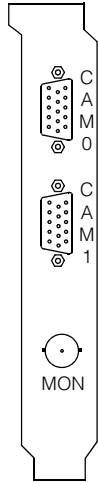

Figure 4. MVS-8100 external connector location
7. Connect your camera(s) to the 8100 using the appropriate camera cable, as listed in Table 20 on page 51. Figure 4 shows the location of the camera ports on the back panel of the 8100.